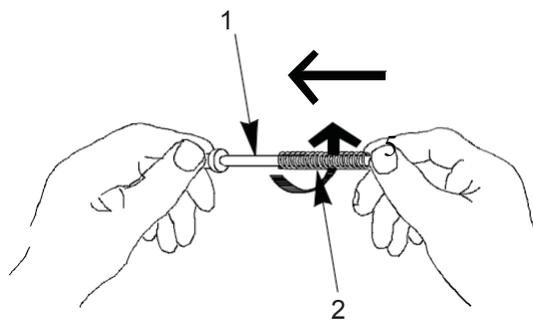

Figure 10. Firing Pin Spring, Firing Pin.
5. Install firing pin spring (Figure 10, Item 2) by holding firing pin (Figure 10, Item 1) in the left hand and with tightly coiled end first, rotate firing pin spring (Figure 10, Item 2) CCW onto firing pin (Figure 10, Item 1).